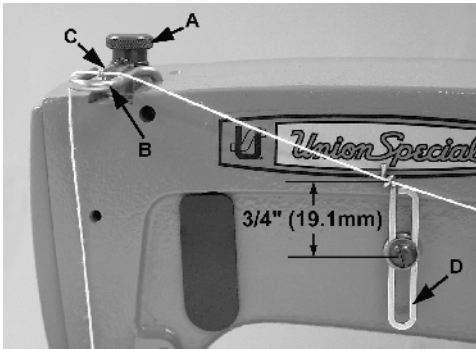

Fig 16
Regulate the presser spring regulating screw (A, Fig. 16) so that it exerts only enough pressure on the presser foot to feed the work uniformly when a slight tension is placed on the fabric. Turning it clockwise increases the pressure, counterclockwise acts the reverse.
For 56100Z28B Turn handwheel in operating direction until the needle bar reaches its lowest position. Set needle thread take-up wire (B, Fig. 16 so that its thread contact surface is even with the center of the needle bar thread eyelet (C). Lower this setting for a smaller needle thread loop, raise for a larger loop. Set needle thread frame eyelet (D) so that it is approximately 3/4 inch (19.1mm) above centerline of its attaching screw (Fig. 16).